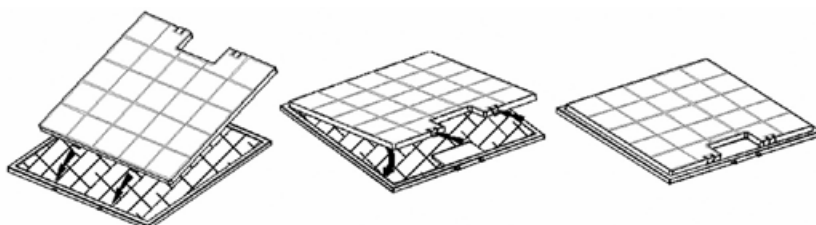

Fig. 3
3. Mount a new carbon filter on the metal one (Fig. 3), and put the set back.